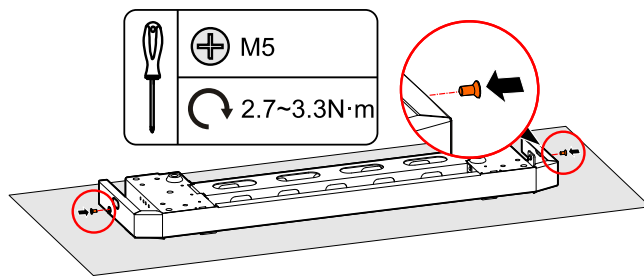

Figure3-16 Fasten the cover plate
4. Assemble the support and base by screws M5, as shown in Figure3-16.